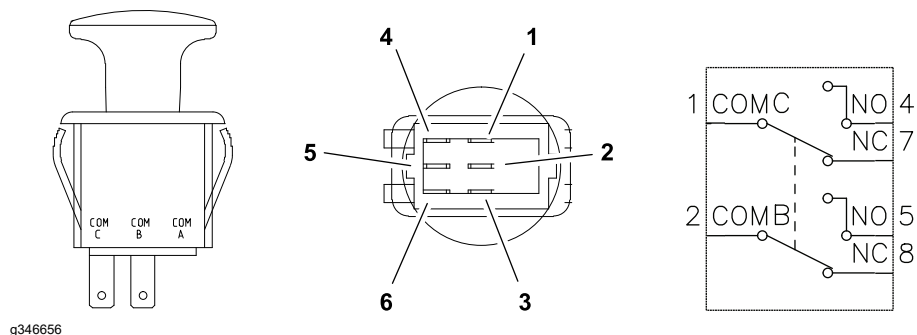

Figure 124
- C. The PTO switch terminals are identified in Figure 124 and the circuitry of the PTO switch is shown in the Circuit Logic Table \(page 6–19\). With the use of a multimeter (ohms setting), test the switch functions to determine if the continuity exists between the various terminals for each switch position. Check the continuity between the switch terminals.
The seat switch is normally open and closes when the operator is on the seat. If the traction system or PTO switch is engaged when the operator raises out of the seat, the engine shuts off. The seat switch and its electrical connector are located directly under the seat (Figure 124). Testing of the switch can be done without seat removal by disconnecting the seat wire from the machine wire harness.
6. Disconnect the machine wire harness electrical connector from the seat switch (Figure 124).